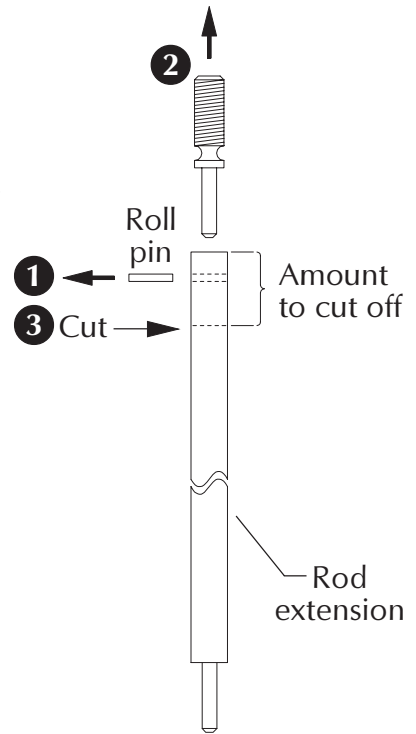

Figure 9-2
- 9.2. Cut rod extension (Figure 9-2).